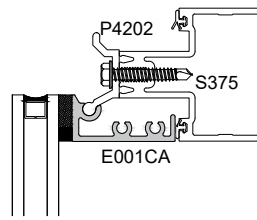

Fig. 57.2
- STEP 3: Roll head of frame toward back member support framing as shown at Fig. 57.2.
- STEP 5: Install and attach head anchor clips P4202, 12" o/c, maximum 2" from ends. See Fig. 57.2